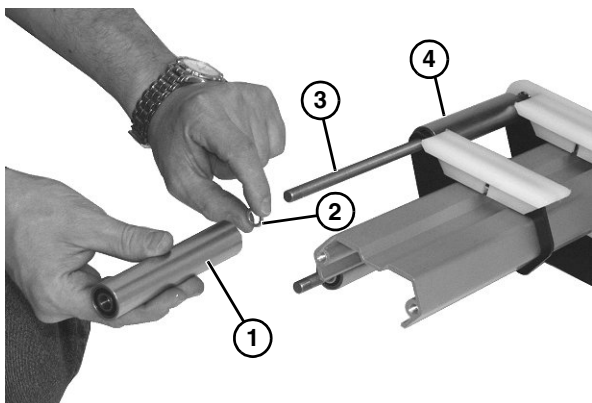

Figure 58
9. Remove roller assembly (**Figure 58, item 1**) and washer (**Figure 58, item 2**) from axle shaft (**Figure 58, item 3**).
10. Remove remaining roller assembly components (**Figure 58, item 4**) on opposite side.